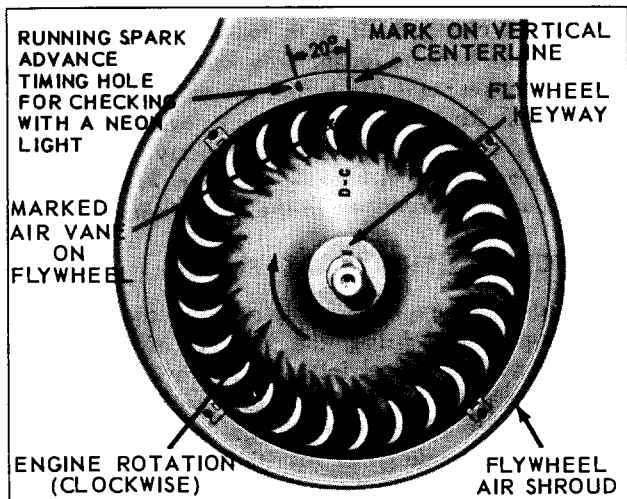
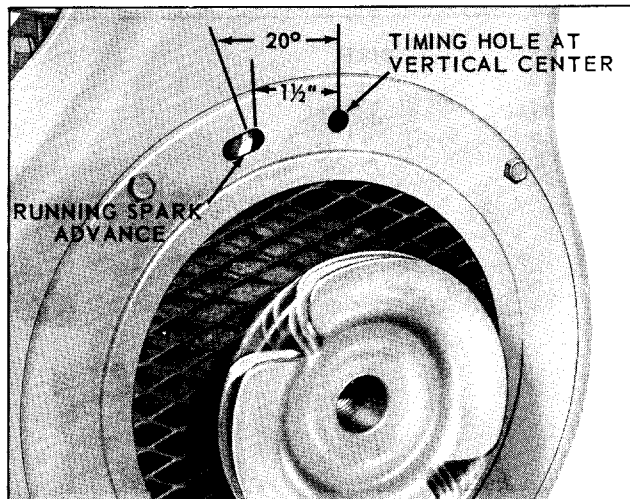
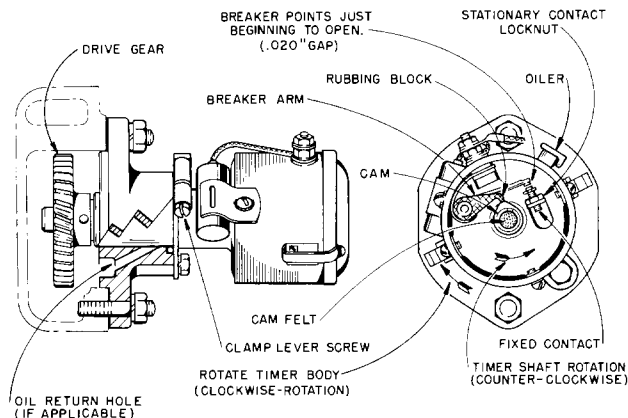

Fig. 12 208068C-1
Fig. 13 287043C
Fig. 15, IGNITION TIMER
Removal of the rope sheave and air intake screen on the flywheel shroud, will expose the **timing marks** on the shroud and flywheel, as shown in Fig. 12. It is however, possible to time the magneto to the engine without removing the flywheel screen. A 3/8" dia. hole in line with the vertical center is located in the air intake screen as illustrated in Fig. 13. The marked air vane on the flywheel is visible thru this opening.
the shroud as shown in Fig. 12, or in the center of the **timing hole** as illustrated in Fig. 13.
The **running spark advance** is 20°. For checking timing with a **neon light**, the running spark advance is indicated by a **slotted hole** on the flywheel screen rim, as shown in Fig. 13. The center of the radii of the right hand edge of the slotted hole is 20° or 1½ inches before the **vertical center** of the cylinder.
The ignition timer **breaker point gap** should be .020 inch. This opening must be checked before the timer body is set, otherwise any adjustment made to the breaker point opening will change the ignition advance adjustment. To readjust the breaker point gap, turn the engine over by means of the rope starter sheave so that the ignition timer breaker arm **rubbing block** is on a high point of the **cam**. Loosen the **stationary contact locknut** and screw **fixed contact**, in or out, until correct gap of .020 inch is obtained. Tighten locknut and recheck gap. See Fig. 15.
Timing marks on the flywheel and shroud are exposed when the rope starter sheave and air intake screen are removed, as illustrated in Fig. 12. However, a 3/8" dia. hole on the **vertical center** and a **slotted hole** to the left, on the rim of the air intake screen as shown in Fig. 13, makes it possible to time the engine without removing the sheave and screen, if so desired.
2. Turn engine over with the starter sheave until the edge of the **D-C** and 'X' marked vane on the **flywheel** is in line with the **mark** on the **vertical centerline** of the shroud as shown in Fig. 12, or in the center of the 3/8" **timing hole** as shown in Fig. 13.
4. Assuming the timer assembly is removed from the engine, turn *cam*, by means of *drive gear*, in a counter-clockwise direction until *breaker points* are just beginning to open. Mount timer assembly to engine, being sure that *oil return hole* in adapter is in the downward position, see Fig. 15.
Chalk or paint the end of the 'X' marked vane on the flywheel, white. Then, with the engine operating at **1800 R.P.M.** or over, allow the flash from the neon lamp to illuminate the whitened vane. At the time of the flash, the leading edge of the vane should line up with the *running spark advance timing hole* on the flywheel shroud, shown in Fig. 12, or the corresponding 20° location in the *slotted hole* of the air intake screen rim, as shown in Fig. 13. If it does not, the *clamp lever screw*, shown in Fig. 15, should be loosened and the timer body turned slightly clockwise or counter-clockwise, as required, until the *advance timing mark* and the *white vane* coincide. Be sure *clamp lever screw* is then securely tightened.